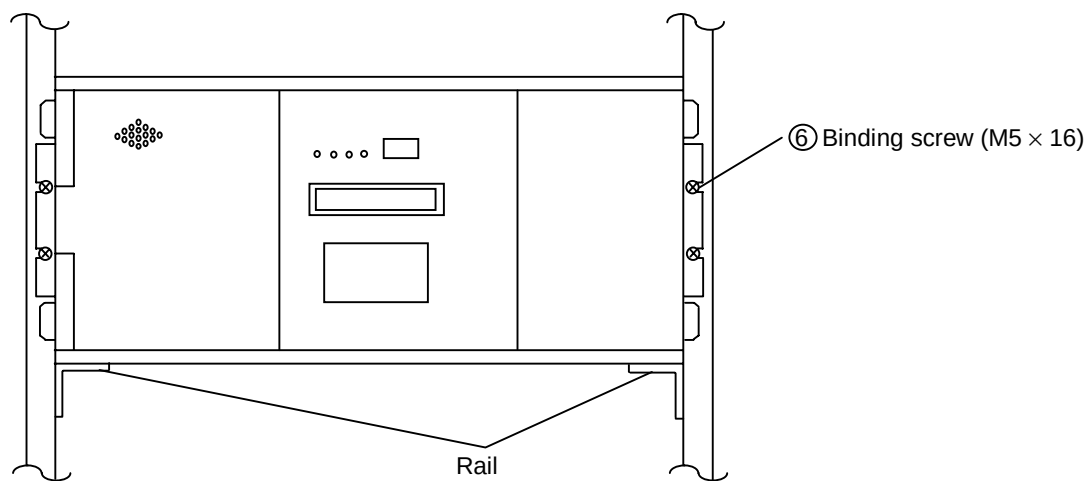

Figure 2.4.6 Securing the Front Side of the Subsystem
2.4.6 Securing the front side of the subsystem (See Figure 2.4.6.)